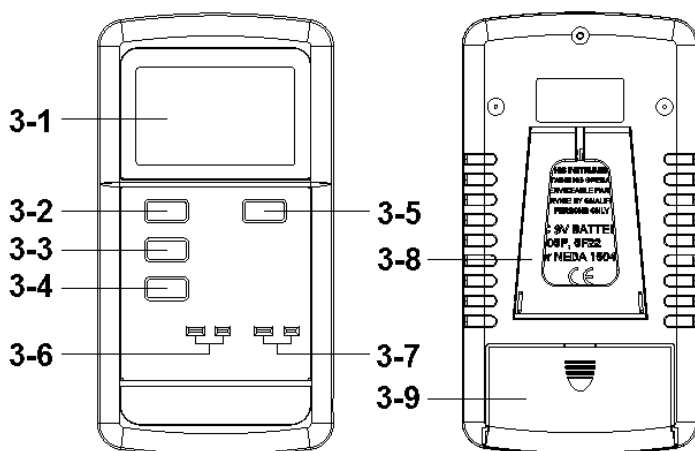

Fig. 1
- 1) Insert the " Temp. probe plug " into the " T1 probe socket " (3-6, Fig. 1).
- 2) Power on the meter by pressing the " Power button " (3-2, Fig. 1) once.
- 3) Press the " Function button " (3-5, Fig. 1) once can select the sequence until the LCD show the " T1- " symbol, the display will show the temperature reading that sensing from the probe's head.
- 1) For two probes (dual channels) measurement, insert the first " Temp. probe plug " into the " T1 probe socket " (3-6, Fig. 1) and insert the second " Temp. probe plug " into the " T2 probe socket " (3-7, Fig. 1).
- 2) Power on the meter by pressing the " Power Button " (3-2, Fig. 1) once.
- 3) Press the "Function button" (3-5, Fig. 1) once
- 4) Press the "Function button" (3-5, Fig. 1) once
- 5) Press the " Function button " (3-5, Fig. 1) once can select the sequence until the LCD show the " T1-T2 " symbol the upper display will show the T1-T2 temperature reading, the lower display will show the T1 temperature reading.
During the measurement, press the " Hold Button " (3-3, Fig. 1) once will hold the measured value & the LCD will display a " HOLD " symbol.
- * The data record function records the maximum and minimum readings. Press the " REC Button " (3-4, Fig. 1) once to start the Data Record function and there will be a " REC " symbol on the display.
- a) Press the " REC Button " (3-4, Fig. 1) once, the " REC MAX " symbol along with the maximum value will appear on the display.
- b) Press the " REC button " (3-4, Fig. 1) again, the " REC MIN " symbol along with the minimum value will appear on the display.
- c) Press the " REC button " (3-4, Fig. 1) once, the Display will show the " REC " symbol only and execute the memory function continuously.
- a. Hold the " FUNC/SET button " (3-5, Fig. 1) at least five seconds will enter the Advanced Setting Procedures.
- b. One by one to press the " FUNC/SET button " (3-5, Fig. 1) once to select the three main function and show the text on the lower display as :
- a. Use " HOLD button " (3-3, Fig. 1) to select " YES " or " no ".
- b. After select the desiring function (YES or no), press the " REC button " (3-4, Fig. 1) to save the function with default.
- a. Use " Hold button " (3-3, Fig. 1) to select " C " or " F ".
- b. After select the desiring text (°C or °F), press the " REC button " (3-4, Fig. 1) to save the data with default.
- 2) Slide the " Battery Cover " (3-9, Fig. 1) away from the instrument and remove the battery.